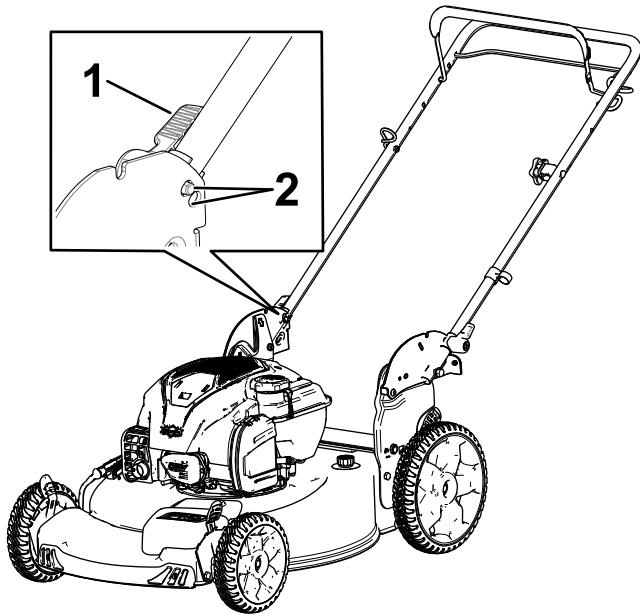

Figure 4
- Set the handle lock in one of the two positions (Figure 4) until the pin clicks in place to lock the handle into the operating position.